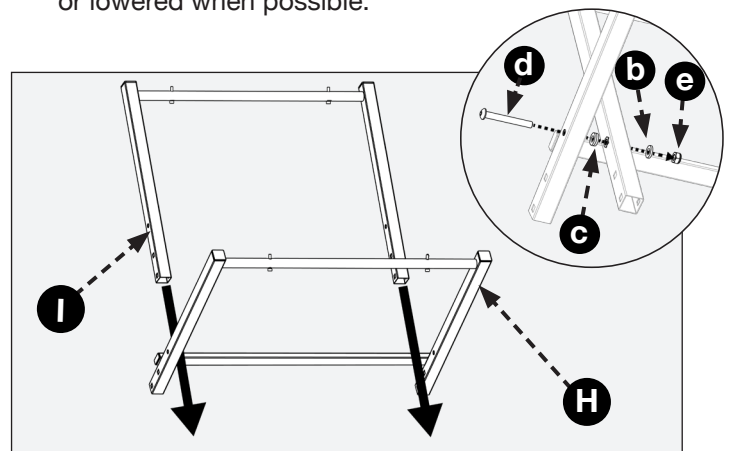

FIGURE 1
Assemble stand part 2 (I) through stand part 1 (H) that has cross support as shown in (Fig. 1). Secure stand assembly with M8 x 65mm hex socket head screw (d), M8 spacer (c), M8 washer (b), and M8 lock nut (e). (Fig. 1)
**NOTE:** M8 spacer (c) is between stand part (H) and (I).